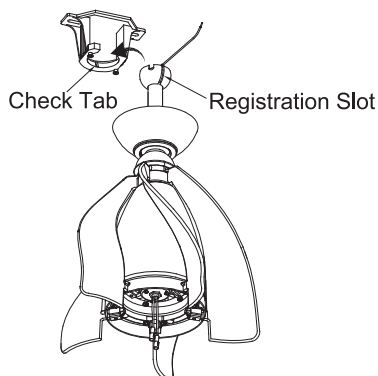

Fig. 12
Step 3. Now lift the motor body into position and place the hanger ball into the hanger bracket. Rotate until the "Check Tab" has dropped into the "Registration Slot" and seats firmly. (Fig. 12) The entire motor body should not rotate if this is done correctly.